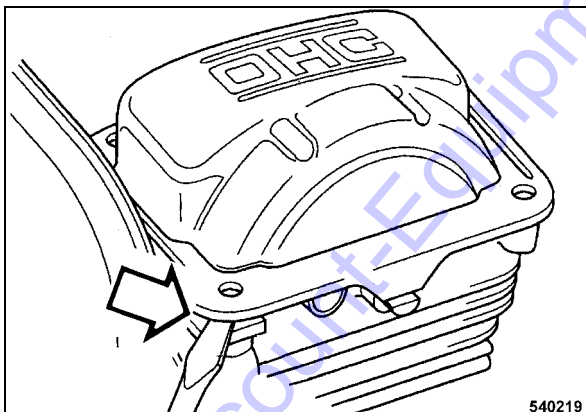

Fig. 50
- Insert the screw driver into the recess (Fig. 50) and take the cylinder head cover carefully off.